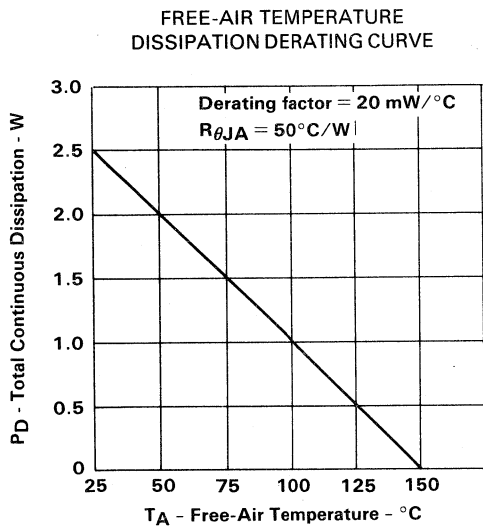

FIGURE 1
3. For operation above 25°C free-air or case temperature refer to Figures 1 and 2. To avoid exceeding the design maximum virtual junction temperature, these ratings should not be exceeded. Due to variations in individual device electrical characteristics and thermal resistance, the built-in thermal overload protection may be activated at power levels slightly above or below rated dissipation.